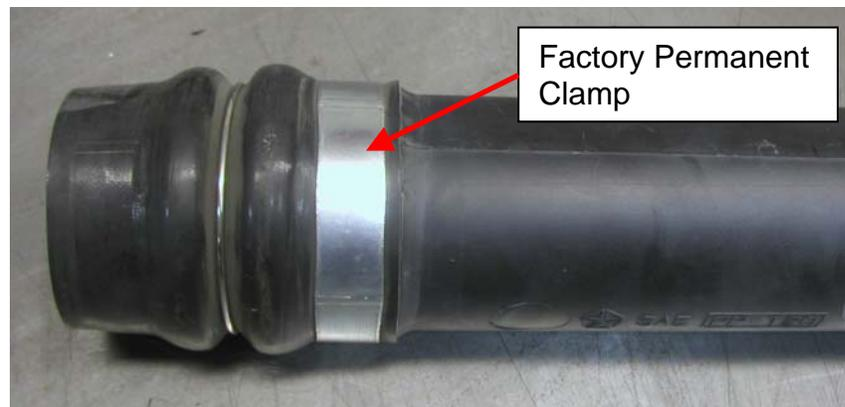

**Figure 2 - Factory Intercooler Assembly**
3. Loosen the clamps shown in Figure 2.